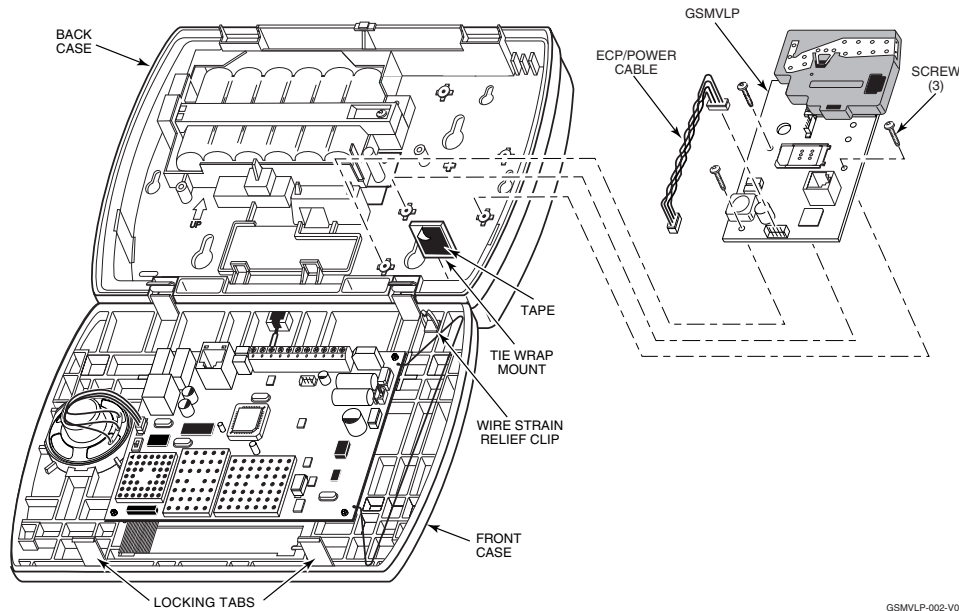

Figure 3 – Installing the GSMVLP Module
2. Release the control's front case assembly from the rear case by depressing the two locking tabs at the top of the unit with the blade of a medium size screwdriver (refer to Figure 3).
4. Install the GSMVLP into the control's back case and secure it with the three provided screws. Refer to Figure 3.
5. Remove the backing from the tape on the provided tie wrap mount. Install the tie wrap mount in the lower right corner of the back case as shown on Figure 3.